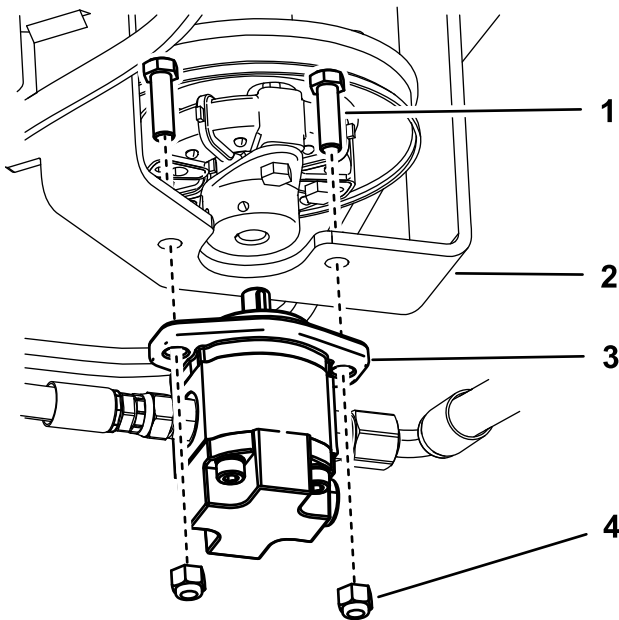

Figure 39
7. Remove the 2 bolts and 2 nuts and loosen the 2 set screws on the coupler. Remove the gear pump from the pump mount (Figure 39).
10. Install the gear pump (Figure 39).